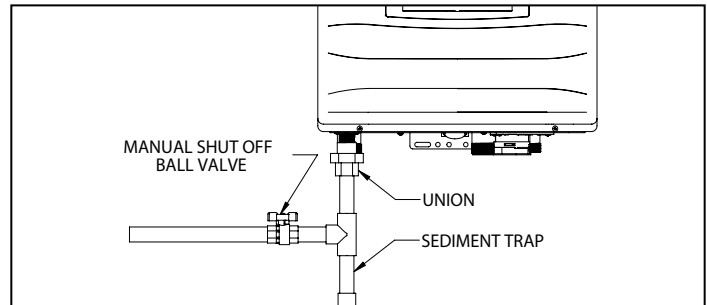

Figure 48 - Gas Line with Shut-Off and Sediment Trap Detail
- The National Fuel Gas Code (NFPA 54) requires that a sediment trap (drip leg) be installed in the gas line on appliances not so equipped. The drip leg must be accessible, a minimum of 3" in length, and not subject to freezing conditions. See Figure 48.
- A manual gas shut-off valve should be installed in the gas supply line close to the water heater. See Figure 48 for detail.